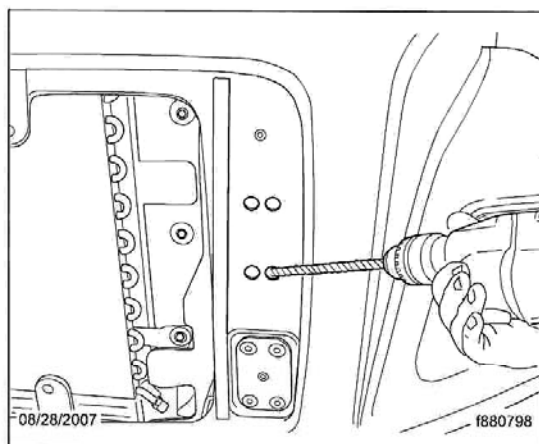

Fig. 5, Drilling through Front Hood Skin
9. Drill four 3/4-inch holes through the front hood skin only. Use the holes previously drilled as a template. Be sure not to drill through the hood reinforcement. See Fig. 5.